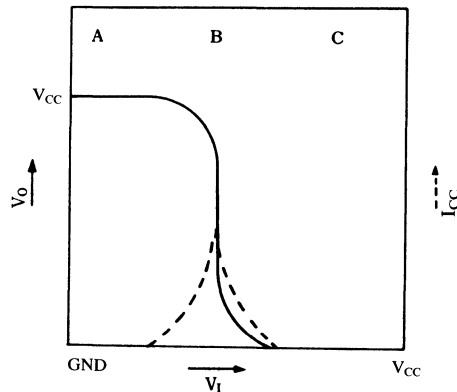

Fig. 2 74HC MOS Inverter Input/output Voltage Characteristics
4.3 When the input (1) is V_{CC} level
When V_{GP} of P_1 and V_{GN} of N_1 are zero and ($V_{CC}-GND$), P_1 and N_1 become OFF and ON, respectively. Accordingly, the operation becomes completely the reverse of the order in 4.1, the voltage (V_O) of output (O) becomes approximately GND level, and no current flows from V_{CC} to GND . The quadrature axis shows an input voltage and the axis of ordinates shows an output voltage in Fig. 2. The dotted line of the axis of ordinates shows current flowing from V_{CC} to GND ; current flows (I_{CC}) only when the inverter changes.